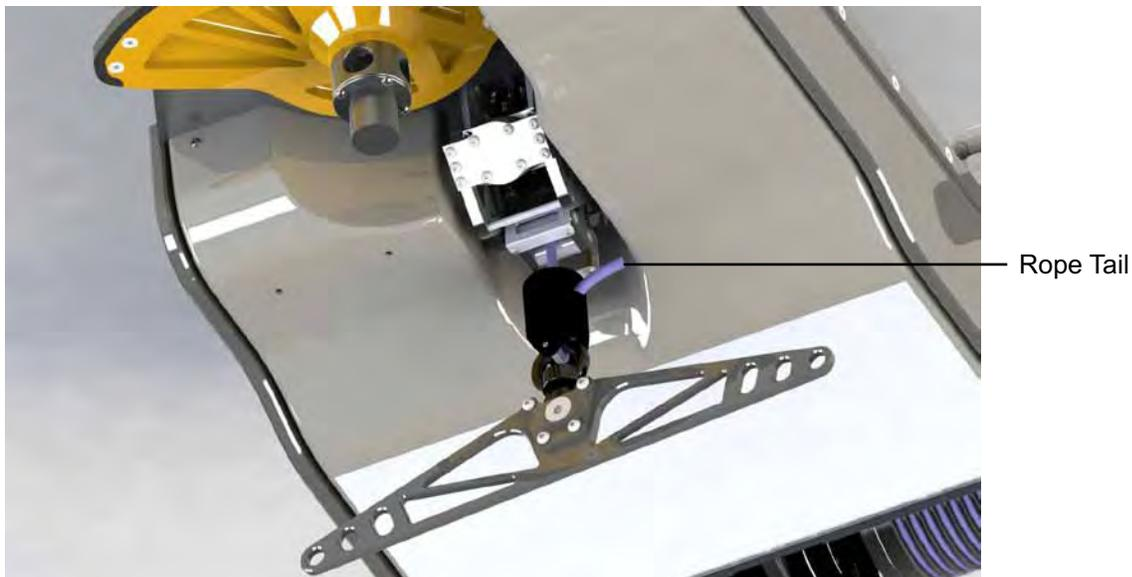

Figure 9-1: Rope Tail
- Inspect the rope tail to make sure it is visible, see Figure 9-1. If it is not visible then the rope knot has been compromised, call Bioness for a service appointment.